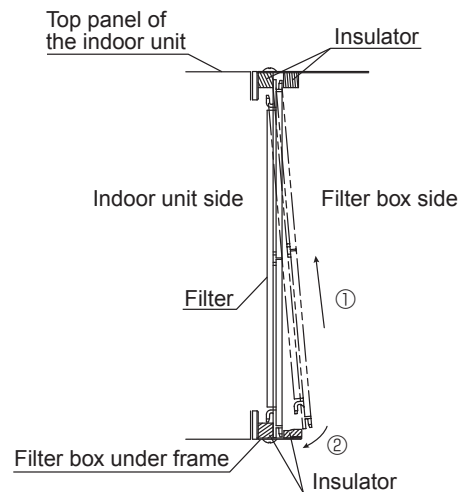

Fig.3-2-3
- (3) Insert the filter between the insulators on the top plate of the filter box until the filter is completely inside the filter box, and place the filter on the under frame of the filter box. (Fig. 3-2-3)
- (4) Install the under panel.